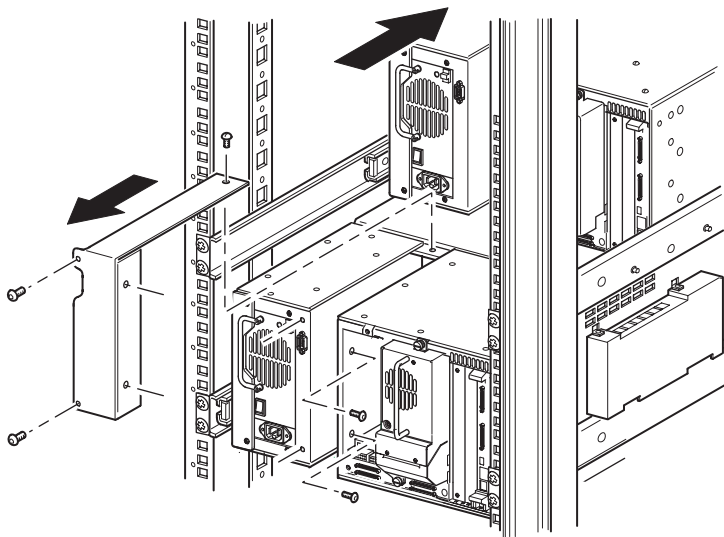

Figure 2-5. Removing the PTM cover plate
3. Using a #2 Phillips screwdriver, remove the screws that secure the PTM cover plate to each library chassis (see Figure 2-5).